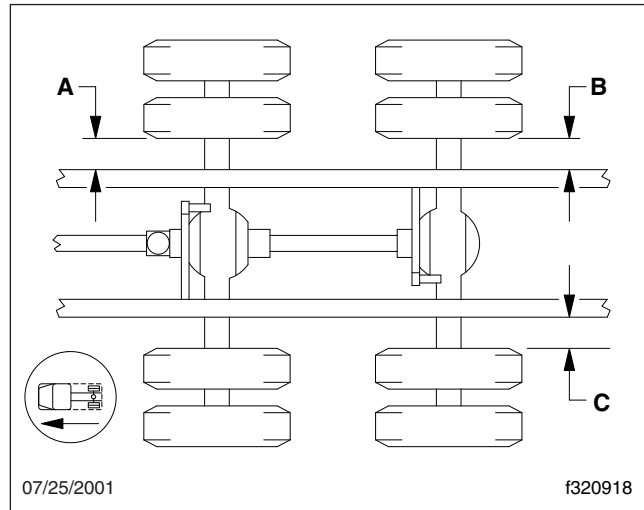

Fig. 3, Rear-Axle Tracking Measurements (tandem axles)
2. At the forward-rear drive axle, measure the distance from the inner side of the right rear tire to the outer side of the right frame rail. Measure at the forward edge of the tire. See Fig. 3.
to the outer side of each frame rail. Measure at the rear edge of each tire. See Fig. 3.